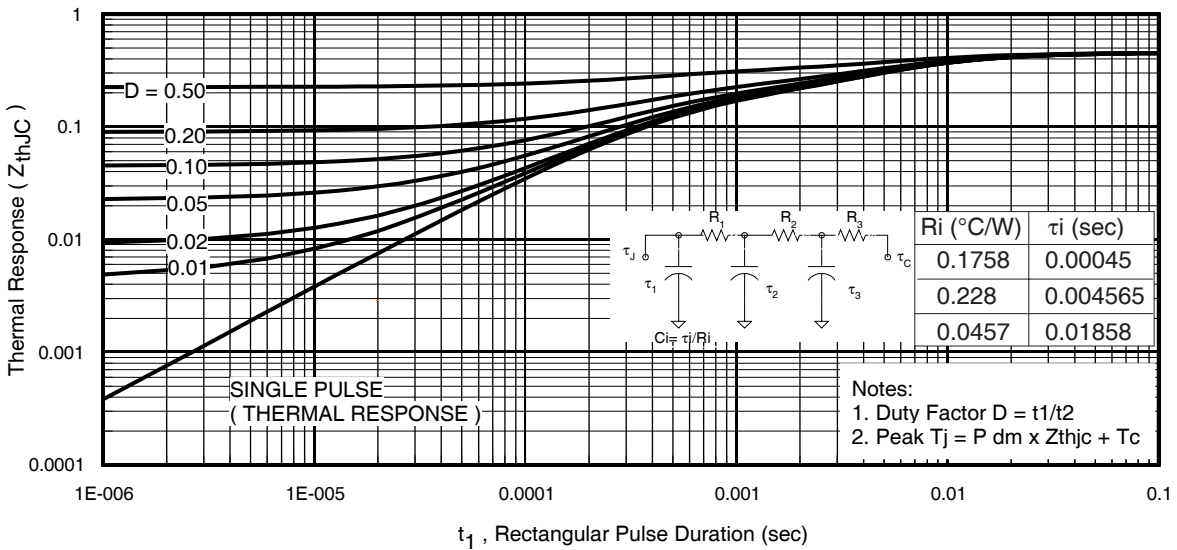

Fig 11. Maximum Effective Transient Thermal Impedance, Junction-to-Case
- ① Repetitive rating; pulse width limited by max. junction temperature. (See fig. 11).
- ② Limited by T_{Jmax} , starting $T_J = 25^\circ\text{C}$, $L = 0.17mH$, $R_G = 25\Omega$, $I_{AS} = 75A$, $V_{GS} = 10V$. Part not recommended for use above this value.
- ③ Pulse width $\leq 1.0ms$; duty cycle $\leq 2\%$.
- ④ $C_{oss\ eff.}$ is a fixed capacitance that gives the same charging time as C_{oss} while V_{DS} is rising from 0 to 80% V_{DSS} .
$Z_{thJC}(D, t_{av})$ = Transient thermal resistance, see figure 11)